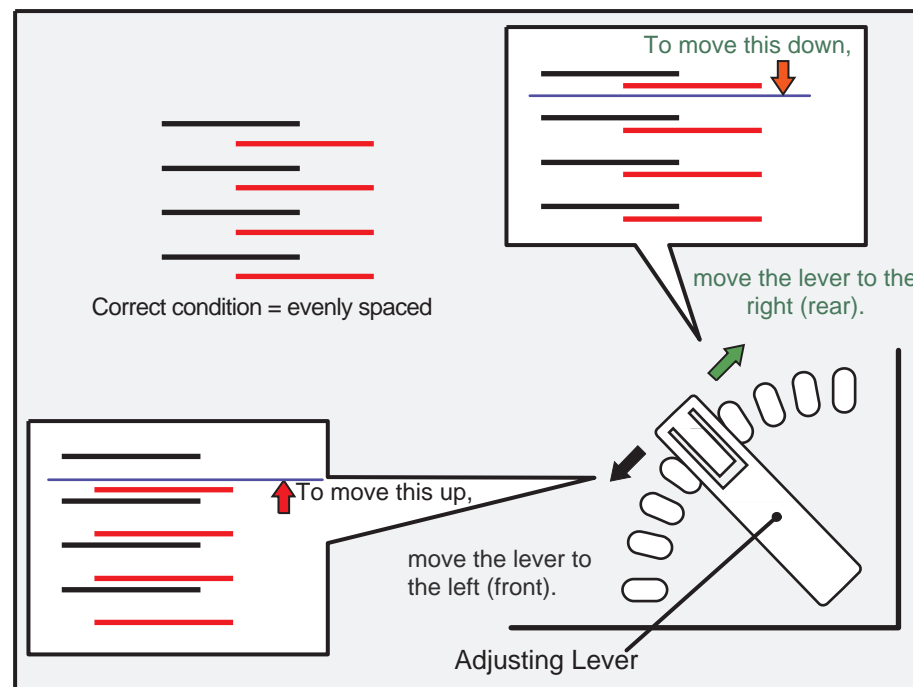

Figure 5-30.
6. Look at the overlapping area between the black lines and the magenta lines in the check pattern. Move the adjusting lever so that the black and magenta lines are evenly spaced, as shown in Figure 5-30 below.